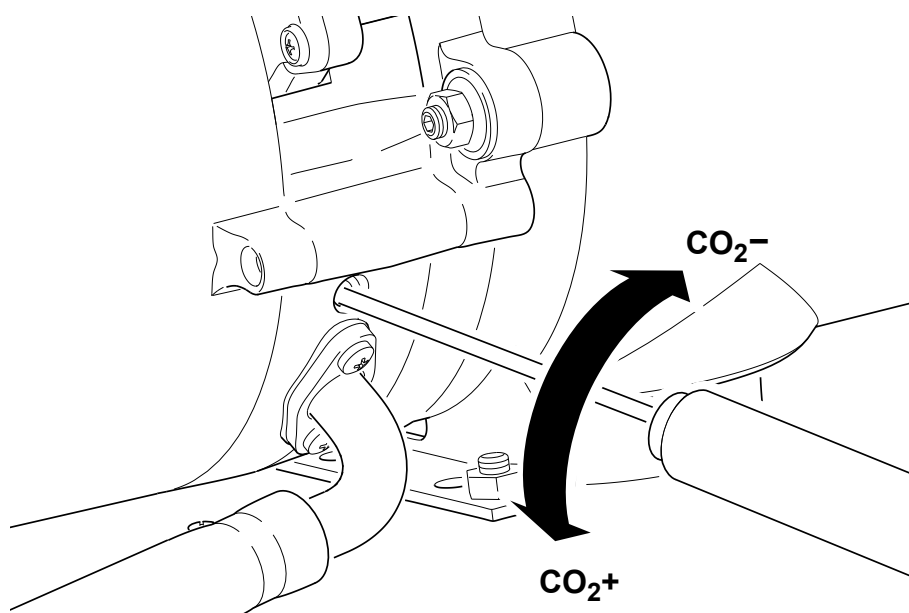

Fig. 701 Adjustment of the exhaust CO₂ content
The exhaust CO₂ content adjustment is performed using an adjustment screw, accessible at the heater above the gas port (see Fig. 701).
4. Insert a hex screw driver into the hole above the gas port (see Fig. 701) and turn the adjustment screw until the target value is reached.